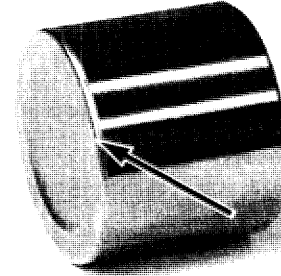

Figure 2-103. Piston Nose Radius
- a. Nose radius of piston. See Figure 2-103.